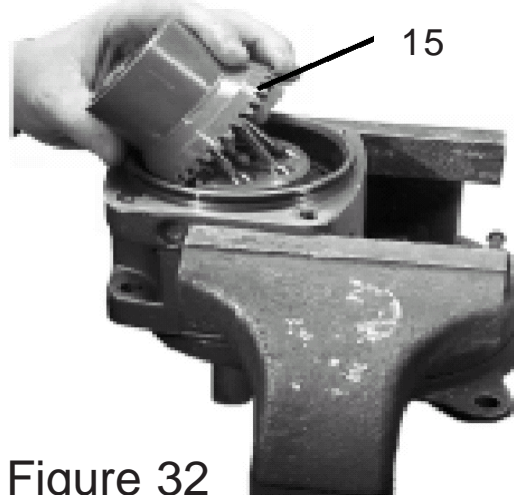

Figure 32
**15** Install Cylinder Barrel. When installing the cylinder barrel (item 15), it must be timed. There are punch marks on the Shaft Gear and the gear of cylinder barrel, these marks must be aligned as shown below. (See Figure 32) Set this assembly aside for now.